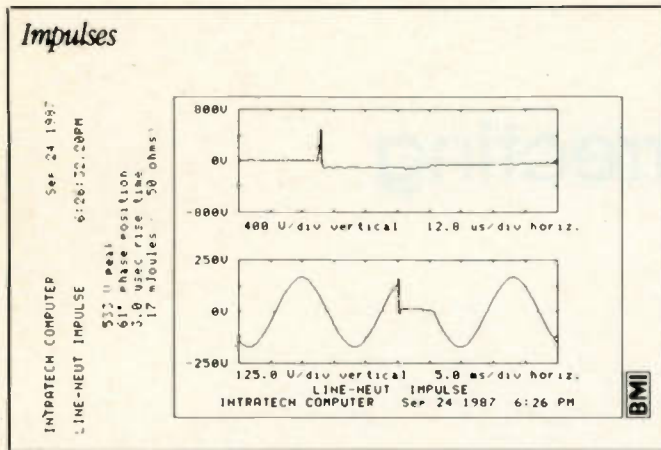

Figure 3.
2. Impulses that show up on the monitor may be caused by capacitors or inductors switching on line, loose wires, lightning, static and power failures. See Figure 3.